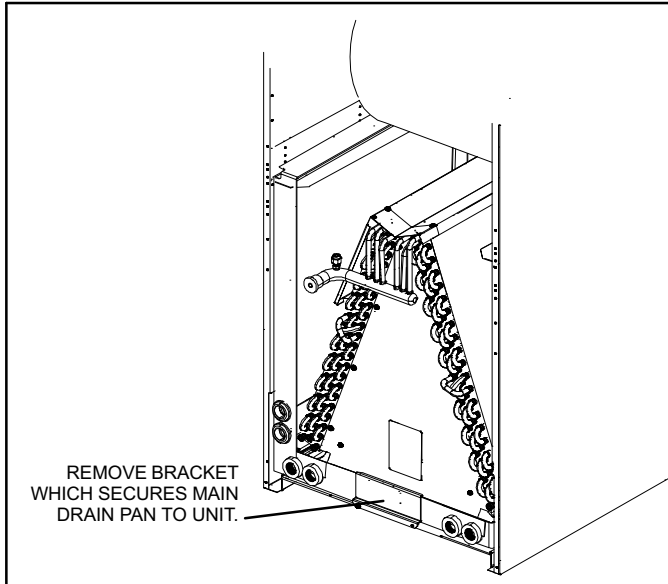

Figure 4. Remove Main Drain Pan Mounting Bracket (-018 through -036)
- 2 - Remove bracket(s) securing pan(s) to unit as illustrated in figures 4 and 5.